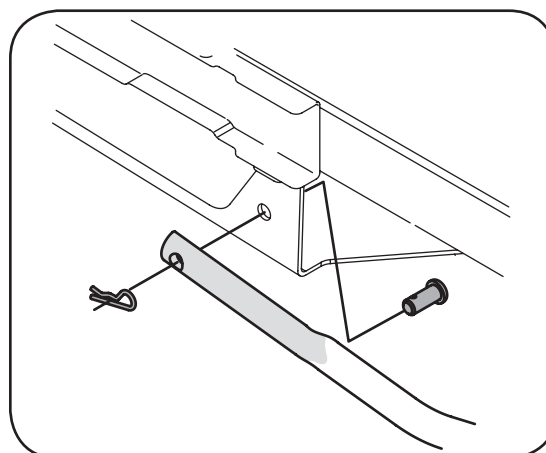

Figure 28
1. Secure the right support tube to the front of the undercarriage assembly with the clevis pin and hairpin clip removed earlier. See Figure 28.